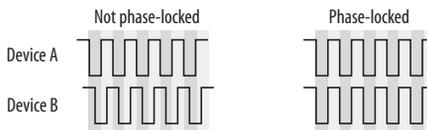

Figure 4-8: When transferring audio, two devices must have phase-locked audio clocks to prevent clicks, pops or other artifacts.
- Synchronizing the 828mkII with other digital audio devices so that their digital audio clocks are *phase-locked* (as shown in Figure 4-8)